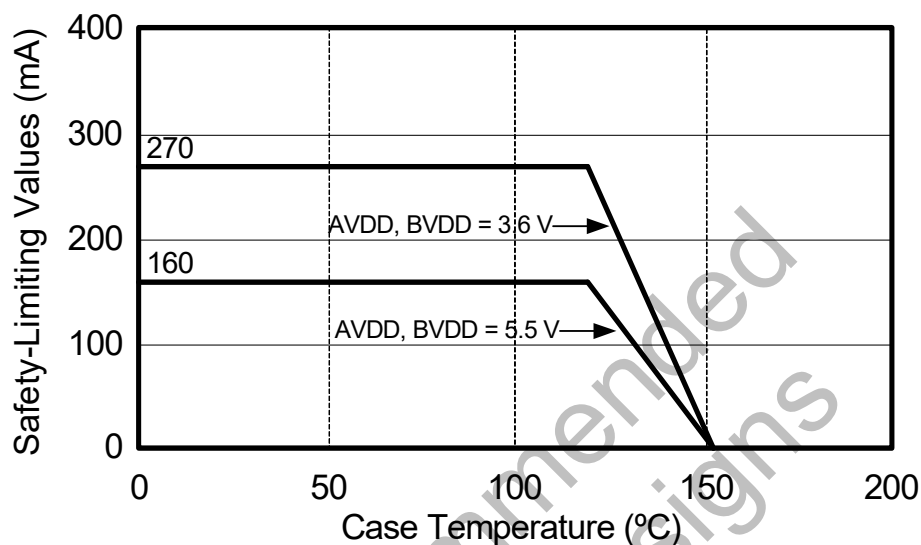

Figure 3. NB SOIC-8 Thermal Derating Curve, Dependence of Safety Limiting Values with Case Temperature per DIN EN 60747-5-2
- Maximum value allowed in the event of a failure. Refer to the thermal derating curve in Figure 3 and Figure 4.